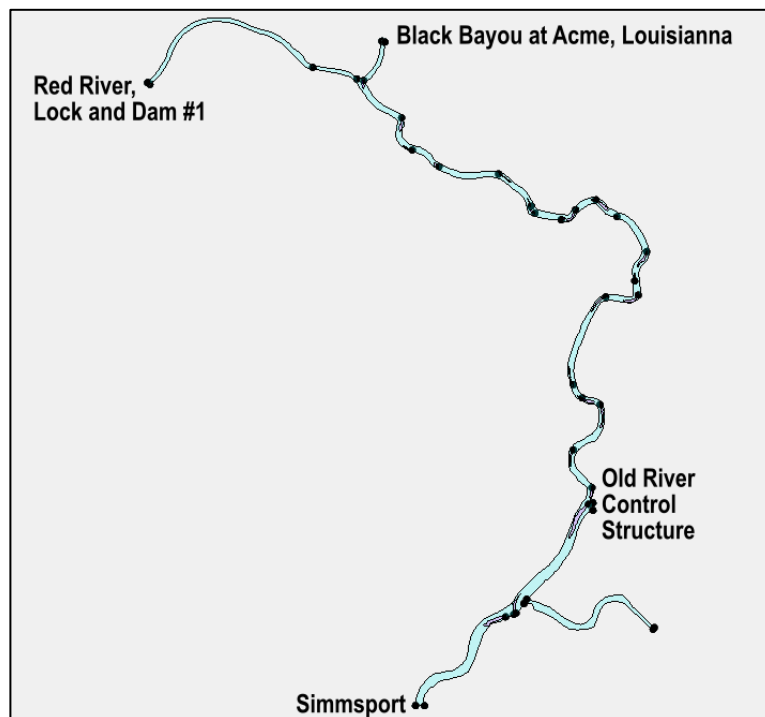

Figure 2: Boundary Condition arcs with locations labeled
13. Navigate to the label Old River Control Structure shown in Figure 2, then using the **Select Feature Arc**  tool, select the closest arc.